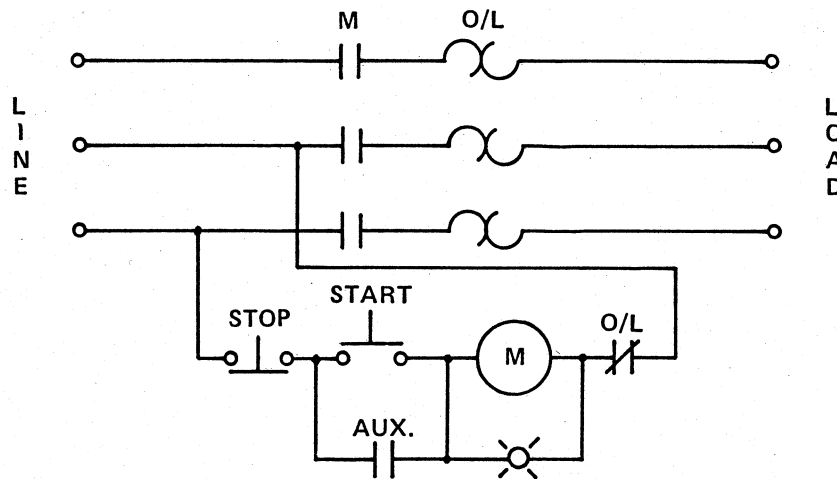

Figure 14-1.
The magnetic starter is another starting device which is very extensively used to start three-phase induction motors. Figure 14-1 shows a typical magnetic starter circuit with pilot light. When the START button is depressed momentarily, current goes from one phase of the line side through the stop and start buttons, the coil and the overload contact, to a different phase of the line. The energized coil closes contacts M to make the circuit to the load side and close an auxiliary contact across the start button. The button can now be released and the coil remains energized. This is called a self-holding or electrically-held circuit. If the motor is overloaded and draws a higher than normal current, the heating elements of the overload device open the overload contact O/L, which breaks the coil circuit and disconnects the motor from the line through contacts M. The same action occurs when the normally closed STOP button is depressed.
- a. Identify the four-pole magnetic contactor, three poles correspond to contacts M shown in Figure 14-1 while the other one is the auxiliary contact (AUX.).